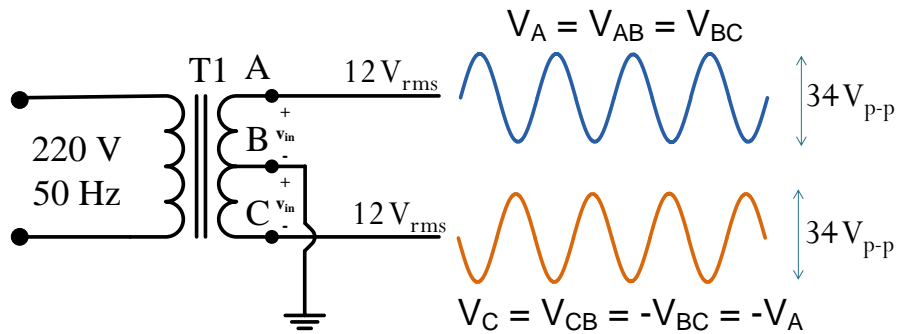

Figure 6-6: A Centre-Tapped Transformer
9. A center tapped transformer is shown in Figure 6-6. The label '220/(12-0-12)' is represented in **rms** values. This means that when input (primary) voltage is approximately 220 V_{rms} , and the center output terminal is grounded, the output (secondary) voltages of the two side terminals will be approximately 12 V_{rms} and 12 V_{rms} (with opposite polarity).